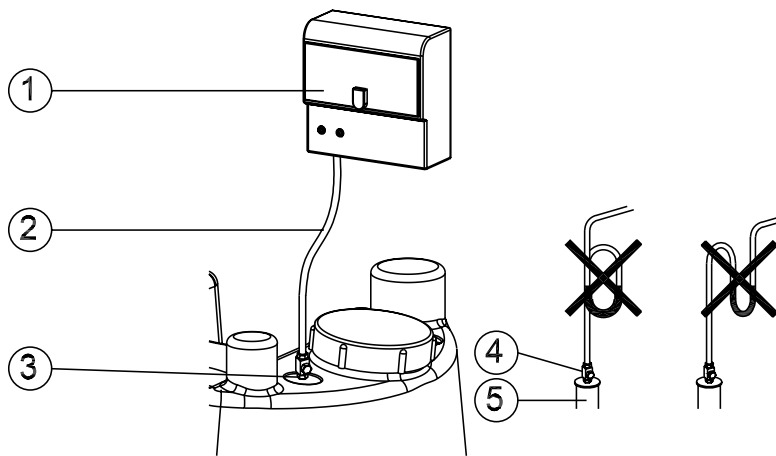

Figure 13 Installation of control line (plastic hose)
Control line (2) has a continuous rise as shown in Figure 13.